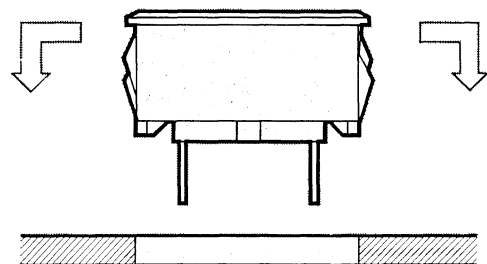

Figure 2. Installation of the Light Bar/Panel Mount Assembly into a Front Panel
3. Applying even pressure to the top of the mount, press the entire assembly into the hole from the front of the panel.[4] (See Figure 2)